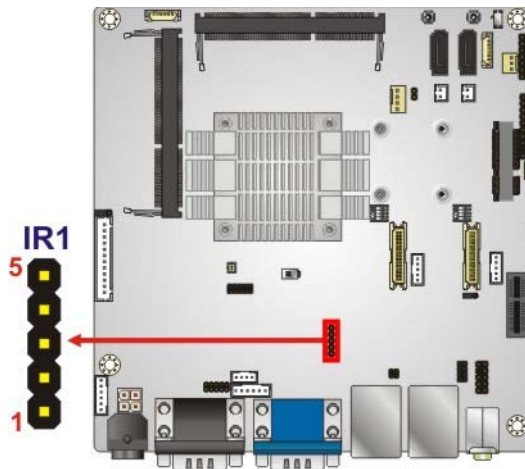

Figure 3-14: Infrared Connector Location
- CN Location: See Figure 3-14